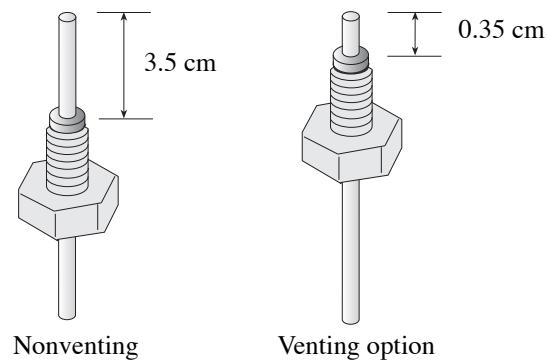
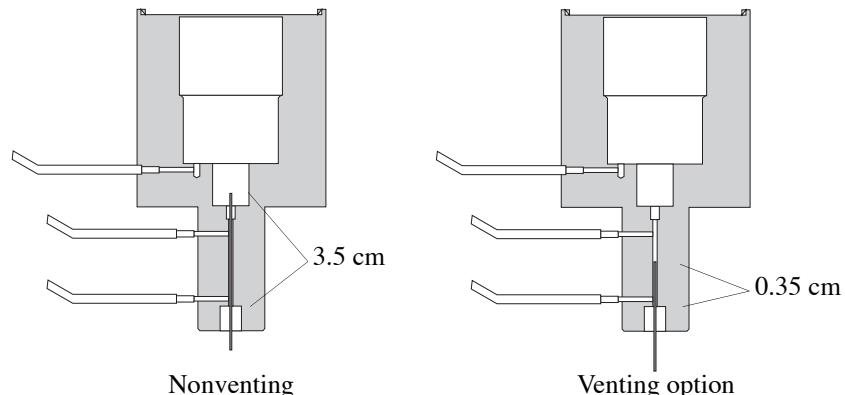

Figure 3.22. Positioning the ferrule on the column
Figure 3.23. Column placement in the detector base
4. Extend the column either 3.5 cm (nonventing) or 0.35 cm (venting option) above the top of the ferrule depending on whether or not the venting option is used (refer to Figure 3.22). Mark the column just beyond the $\frac{1}{16}$ " nut to verify proper column position.
- Gently insert the column into the detector, maintaining the proper column position (Figure 3.22). Verify the column mark from step 4 is just below the nut. Tighten the $\frac{1}{16}$ " nut until the column can no longer be moved. Refer to Figure 3.23 for the correct column placement in the detector base.